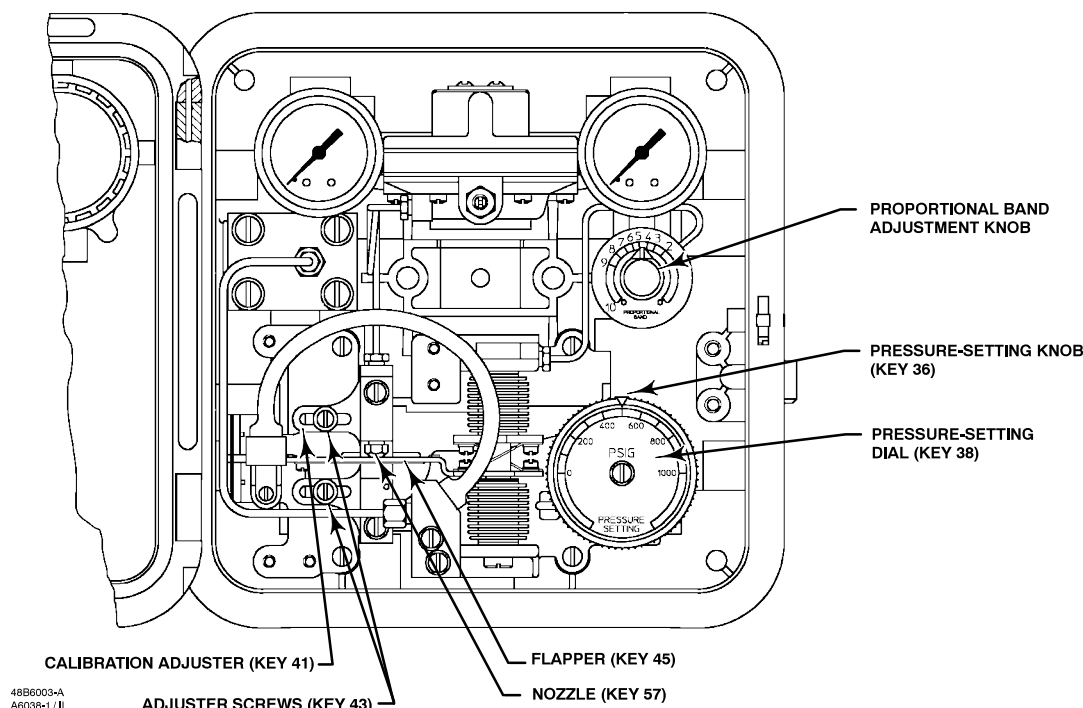

Figure 5. Proportional-Only Controller Adjustment Locations
This section describes the adjustments and procedures for calibration and startup. Adjustment locations are shown in figure 5 unless otherwise specified. All adjustments must be made with the cover open. When the adjustments and calibration procedures are complete, close and latch the cover.
Unless otherwise indicated, key number locations are shown in figure 5.
2. Rotate the proportional band knob, shown in figure 5, to 1.5 (15 percent proportional band).
3. Verify that the calibration adjuster screws (key 43) are at mid-position in the calibration adjuster (key 41) slots.